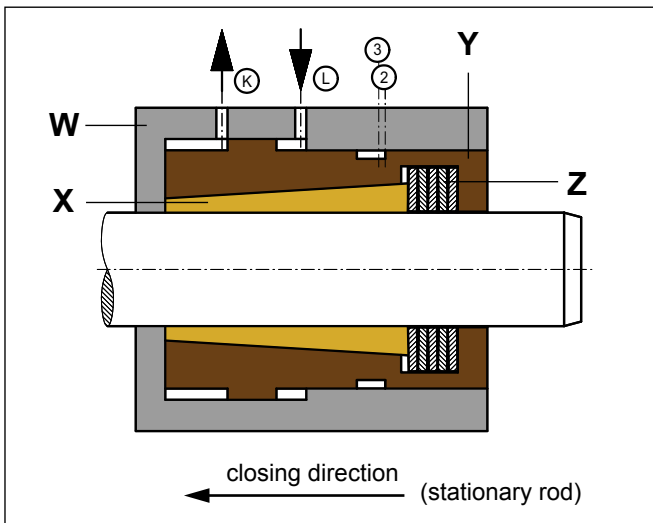

Fig. 1: Design of the SITEMA PowerStroke (clamping released)
The clamping system consists of the clamping sleeve (X) Fig. 1 and the clamping ring (Y) Fig. 1 which are braced against each other by springs (Z) Fig. 1. The clamping ring is supported in the housing (W) Fig. 1 so that it can be moved hydraulically via the pressure ports L and K.
If the required minimum pressure is applied to pressure port L (pressure port K pressureless), then the housing (W) moves in opposite direction to the closing direction until it reaches the stop, thereby opening the clamping system (see Fig. 1).